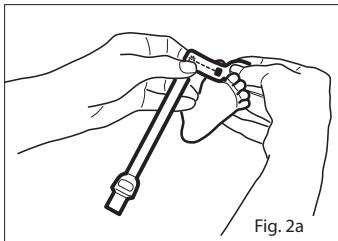

Fig. 2a
- Refer to Fig. 2a. Direct the sensor cable so that it runs along the top of the foot. Position the detector on the fleshy pad of the great toe. Alternatively, the toe next to the great toe, or the thumb can be used (not shown).